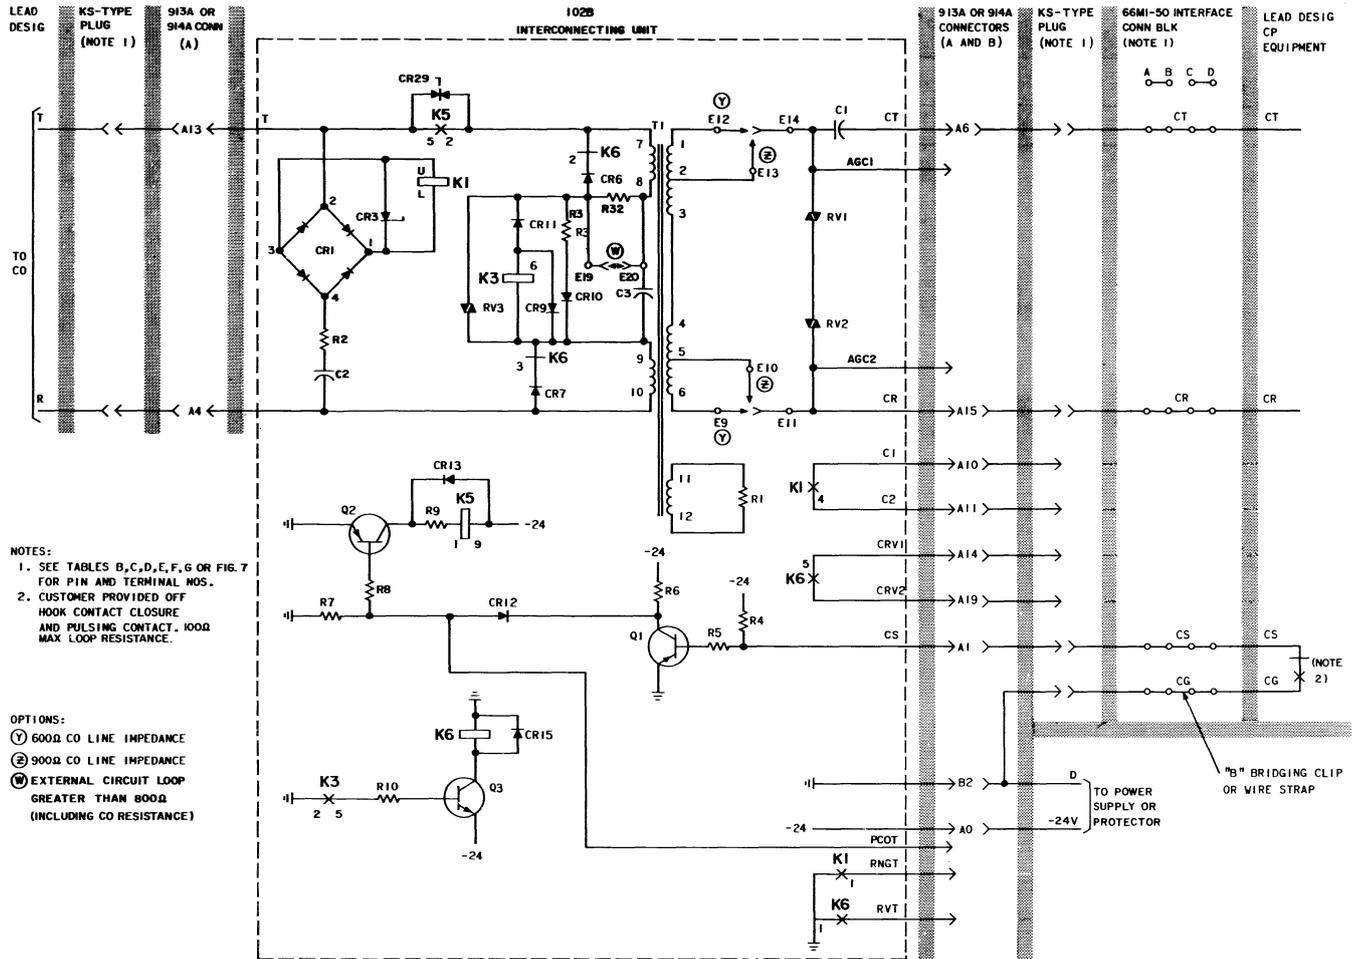

Fig. 10—Schematic—102B Interconnecting Unit
A. 102B Interconnecting Unit (Fig. 10)